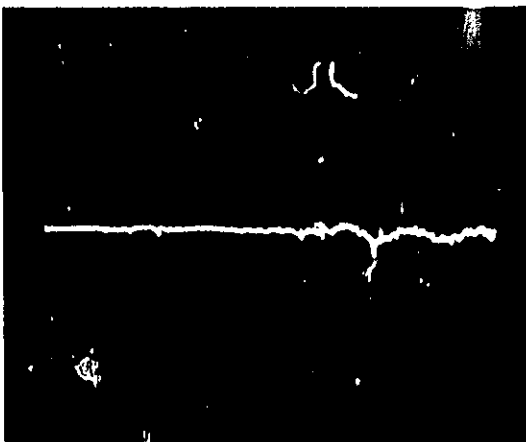
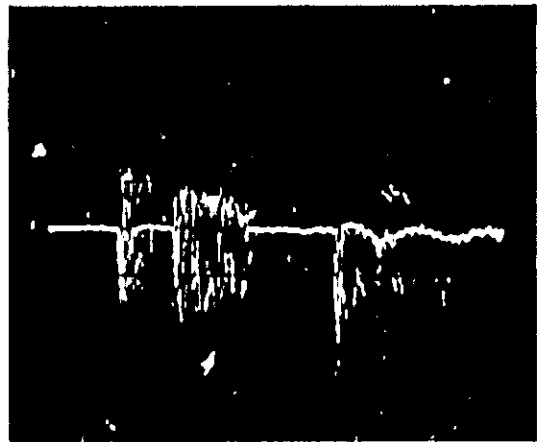

Figure 4-1. Typical Display of Phase-Locked Signal, 0.11 to 2 GHz, or 2 to 18 GHz
Figure 4-2. Typical Display of Signal That is Not Phase-Locked
- g. Set 8410B SWEEP STABILITY control to a position that gives a continuous amplitude trace on 8412A display. A typical setting is at 1 o'clock position. It may be necessary to reduce sweep rate on signal source. (Bright dots on the display are band switch points for either the 8410B or the 8620C.) A typical phase-locked signal trace is shown in Figure 4-1. A signal that is not phase locked is shown in Figure 4-2.